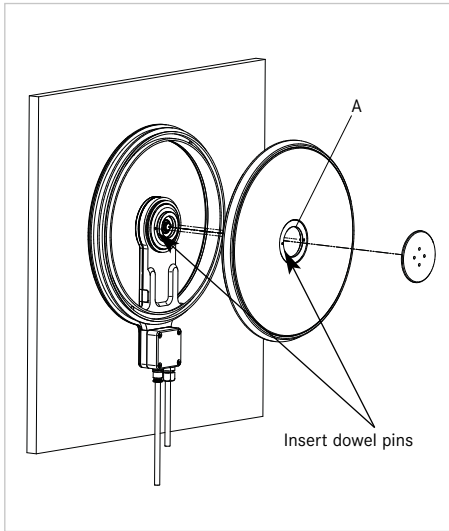

Figure 11: Assembly turntable
Then place the hub (A) on the base unit motor, making sure that the rotor hub dowels engage the motor holes (Figure 11, page 15).
For now, tighten them only by hand (clockwise) (Figure 11).